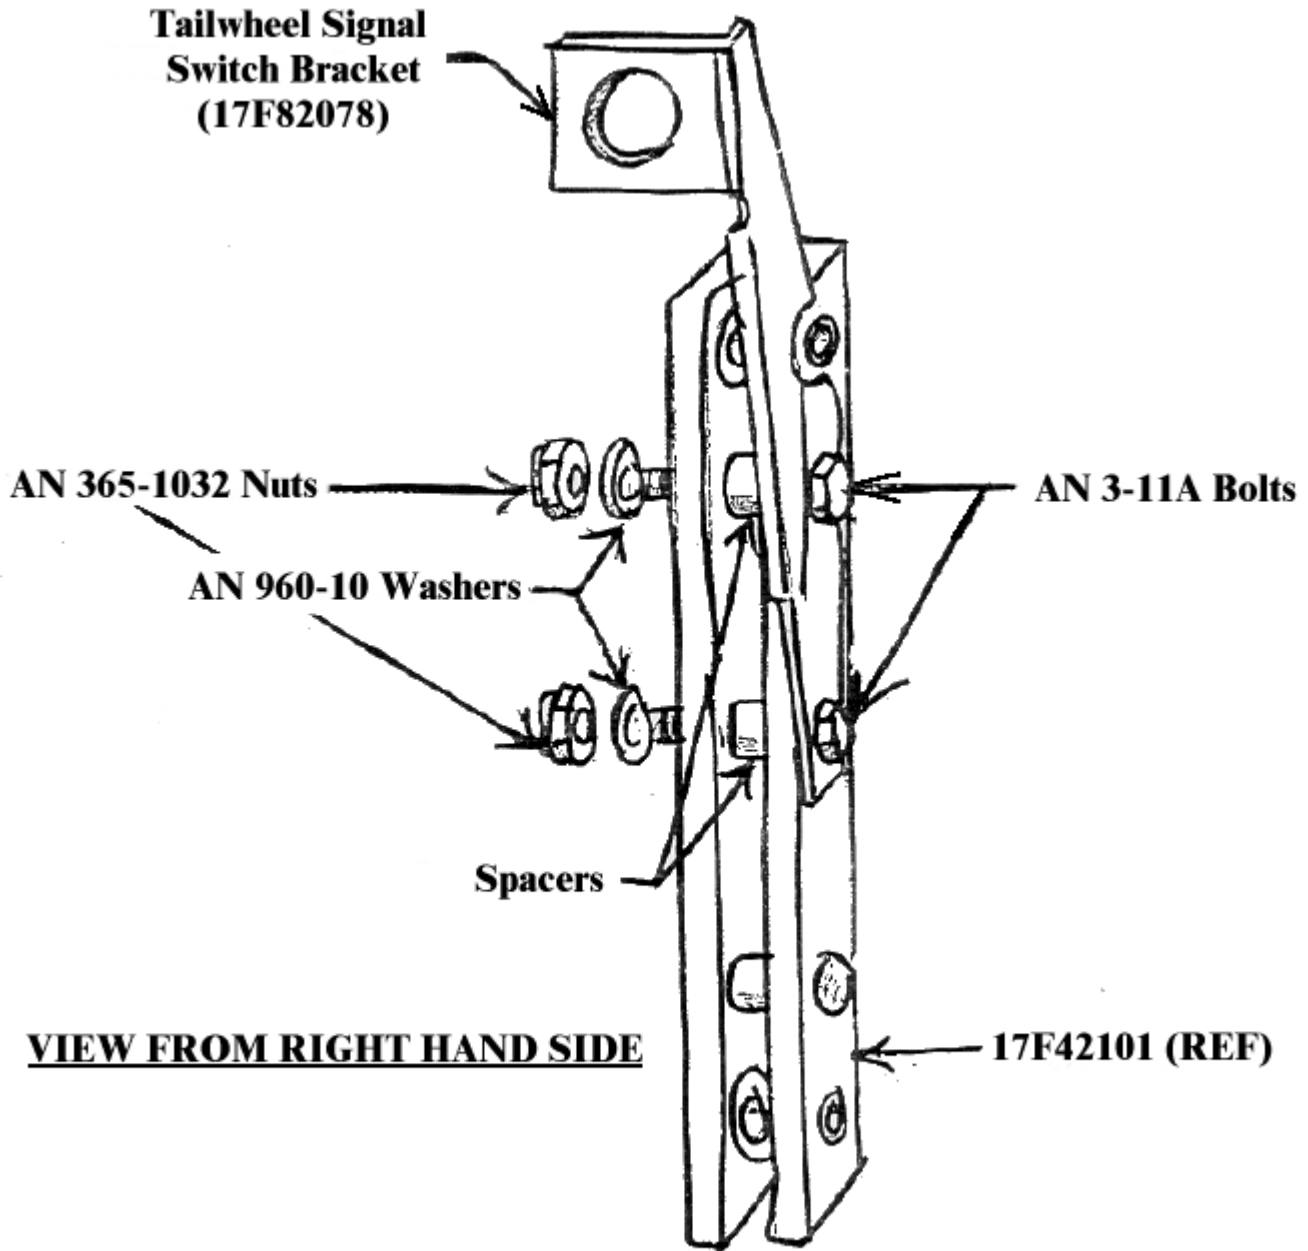

Figure 3
8. Remove the lower tail wheel actuating link assembly 17F42101 and drill out two upper 3/16" rivets, saving the spacers between the links. Use extreme care not to elongate holes. Locate the new tail wheel signal switch bracket 17F82078 on the forward side of the link assembly with the offset to the right and attach with two AN3-11A steel bolts, original bushings between links, AN960-10 washers and AN365-1032 nuts. Refer to figure 3 for bracket installation.